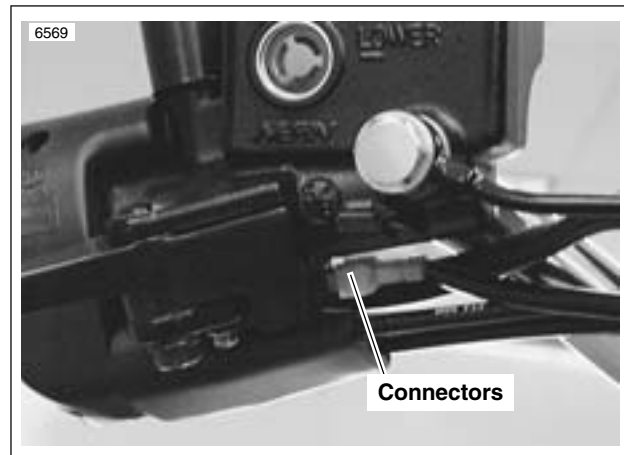

Figure 2-32. Brake Lamp Switch Connectors
2. Connect brake line (5) to master cylinder using two **new** banjo washers (4) and banjo bolt (6) (metric). Tighten to 16-20 ft-lbs (22-27 Nm).
3. See Figure 2-32. Verify brake lamp switches are secure. Attach wires to switches.